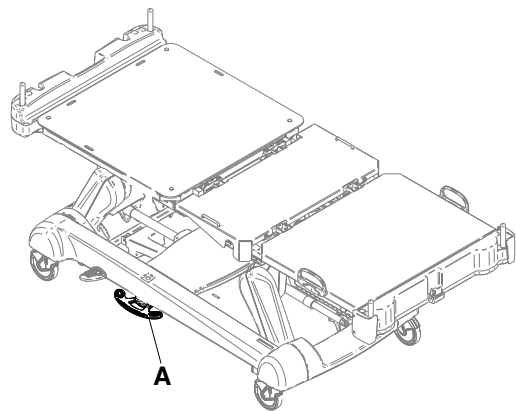

Figure 5 – Flipped manual brake pedal
1. Flip down the brake pedal (A) (Figure 5).